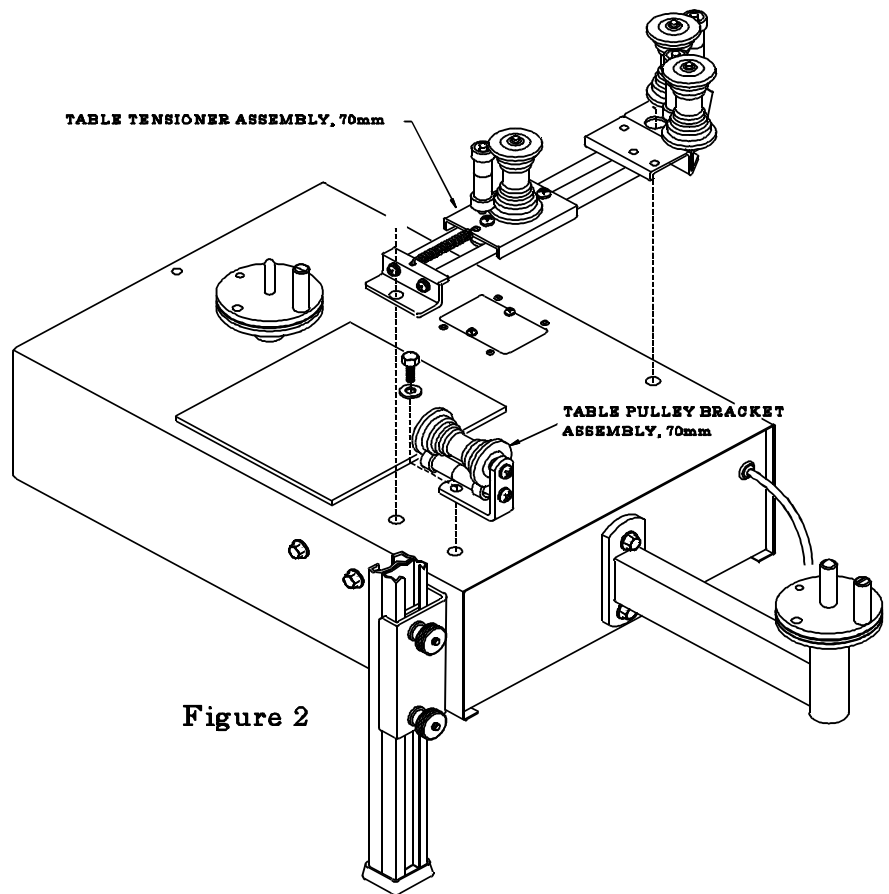

Figure 2
1. Remove the 35mm Table Pulley Bracket Assembly and the 35mm Table Tensioner Assembly and replace them with the 70mm Table Pulley Bracket Assembly and 70mm Table Tensioner Assembly (see Fig. 2, page 2). See PIB 2539, Table Operation Manual for complete instructions.